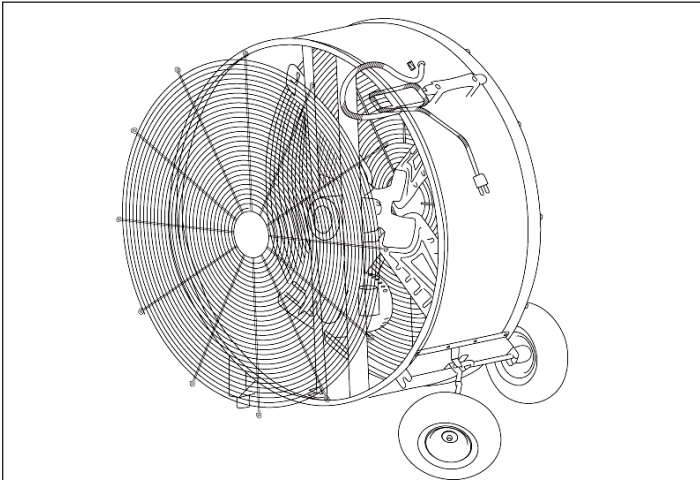

figure 2: Removing Guard
1. Remove screws from Rear Guard and tilt wheel (figure 2).